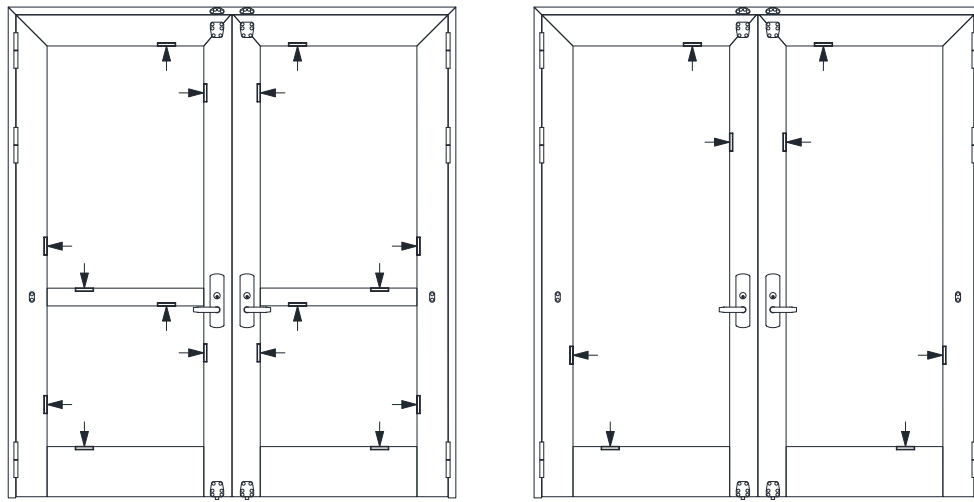

Figure 15 - Door Setting Block Placement
- 6.2 For proper support of the glass, use the supplied setting blocks at quarter points of daylight opening. Doors will use four (4) setting blocks (Figure 15).